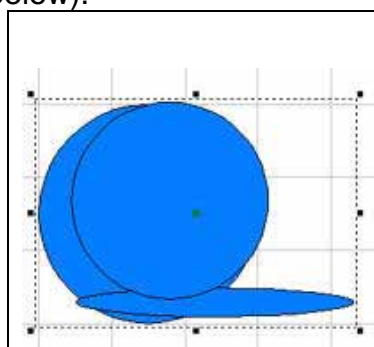
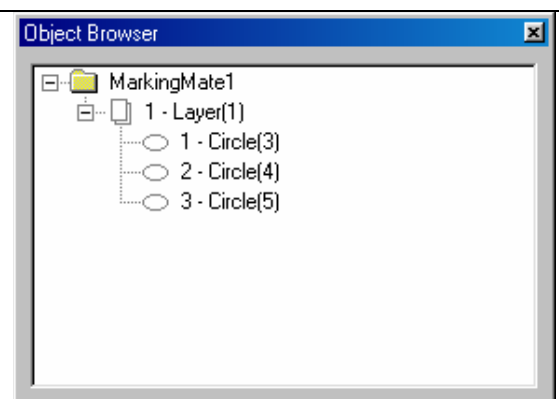

Figure 1
Figure 2
**Step 2:** Click "Draw – Circle" from Menu Bar, or click the  button from toolbar. Draw any figure in the Work Area; fill in all objects (as Figure 1 below). Now you can see all objects are circles in Object Browser (as Figure 2 below).